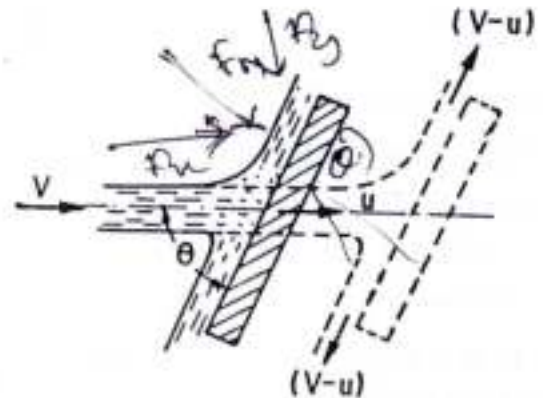

Fig. 17.11. Jet striking and inclined moving plate.
**17.4.2. Force on the Inclined Plate moving in the direction of the Jet.** Let a jet of water strikes an inclined plate, which is moving with a uniform velocity in the direction of the jet as shown in Fig. 17.11.